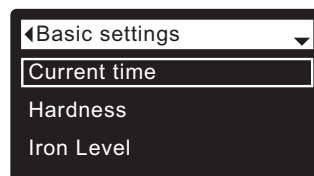

FIG. 43
3. Press the SELECT (O) button to display the Basic settings menu (See Figure 43).
7. Press the SELECT (O) button. The display will go back to the Basic settings menu (Figure 43).